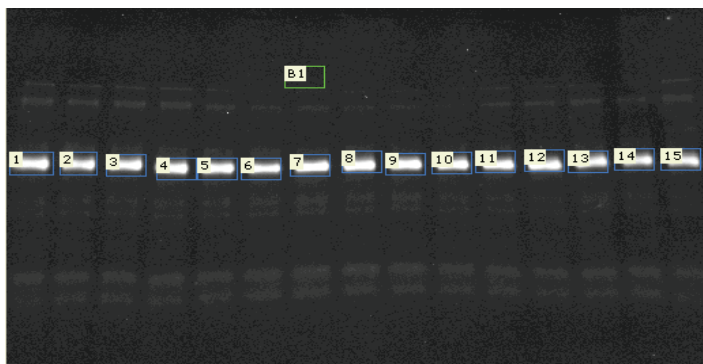

Figure 9. The background values from a single region are extracted and applied to all regions.
Regional Background. When the Regional Background function is active, a single background region will be applied to all object regions. To use this option, place a background region in an area of the image representative of the background level for all the regions (Figure 9). The data table is automatically updated with Background Corrected (BC) values (Figure 10).